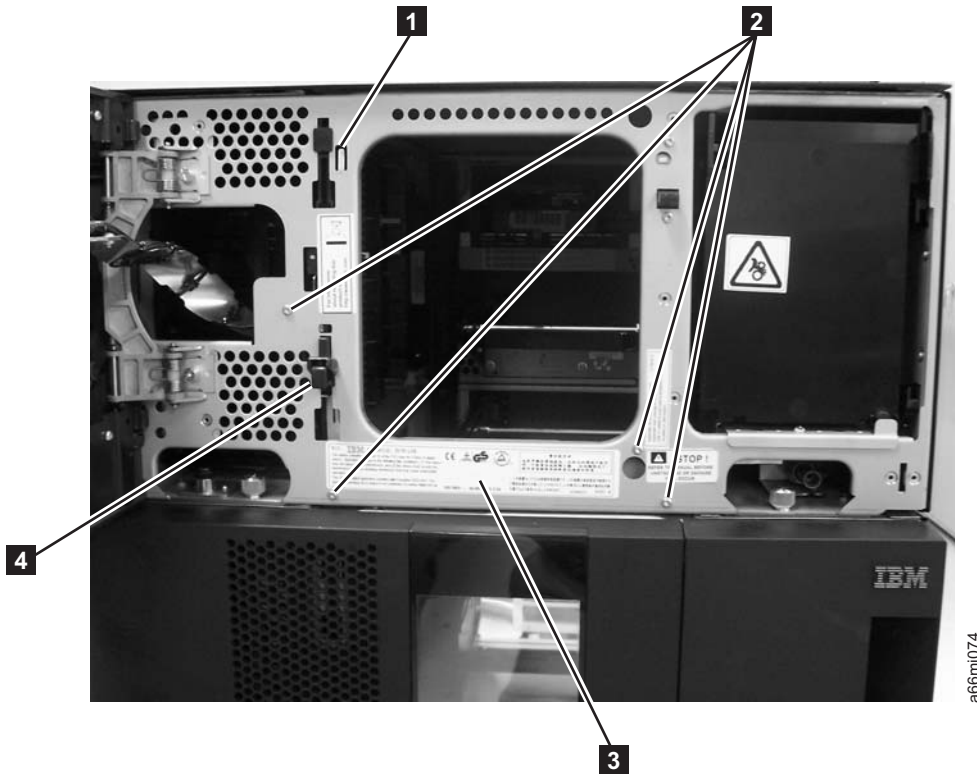

Figure 8-66. Front gear rack
3. There is a small metal tab in the chassis frame (**1** in Figure 8-66 on page 8-68) that prevents the gear rack from falling down too far when the locking mechanism is released. Bend the tab out slightly so the gear rack can be removed.
4. Slightly push up and pinch the gear rack locking mechanism to unlock the front gear rack (**4** in Figure 8-66 on page 8-68).
5. While pinching the gear rack locking mechanism (**4** in Figure 8-66), push the gear rack down, then release your hold on the locking mechanism.